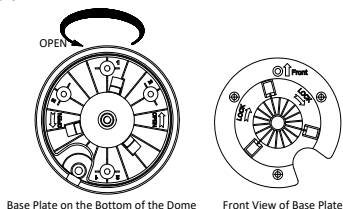
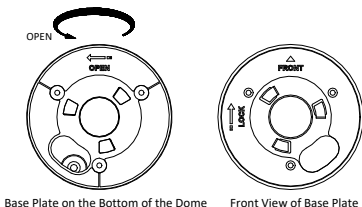

Figure 2-26 Base Plate for DE2xxx Series PTZ Camera
Figure 2-27 Base Plate for DE2xxxI Series (IR) PTZ Camera
1. Rotate the base plate counterclockwise to separate it from the PTZ camera, as shown in Figure 2-26 and Figure 2-27.